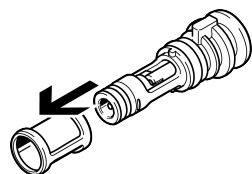

Fig. 5: Replacing air filter
3. Pull out the vacuum generator cartridge → Fig. 5.